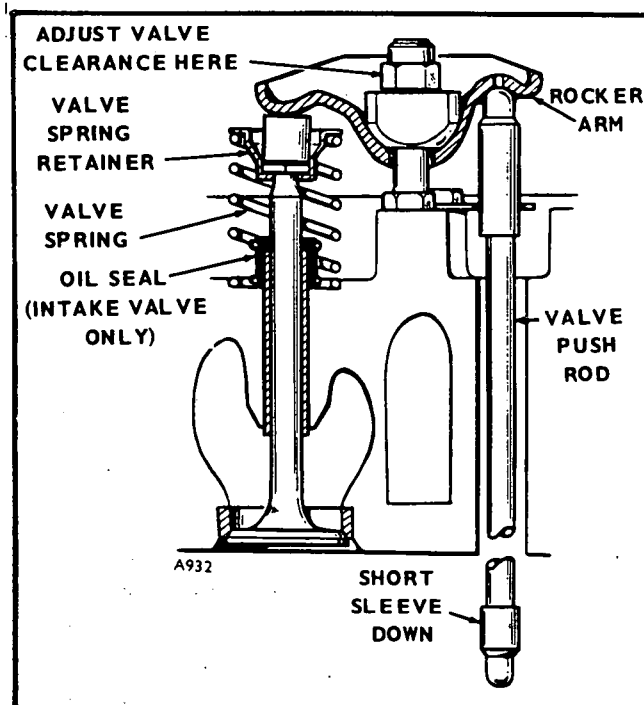

FIGURE 37. SETTING VALVE CLEARANCE
3. Cylinder head bolt torques should be 44 to 46 foot-pounds. To change the setting of valve clearance, adjust the locknut which secures the rocker arm to the cylinder head (see Figure 37). Loosen the locknut to increase clearance and tighten it to reduce clearance.